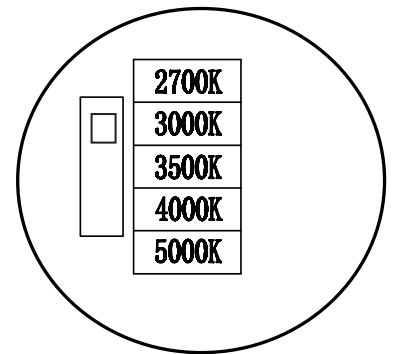

Fig.4
3. Select the desired Color Temperature by setting the sliding switch to the target CCT (See Fig.4)